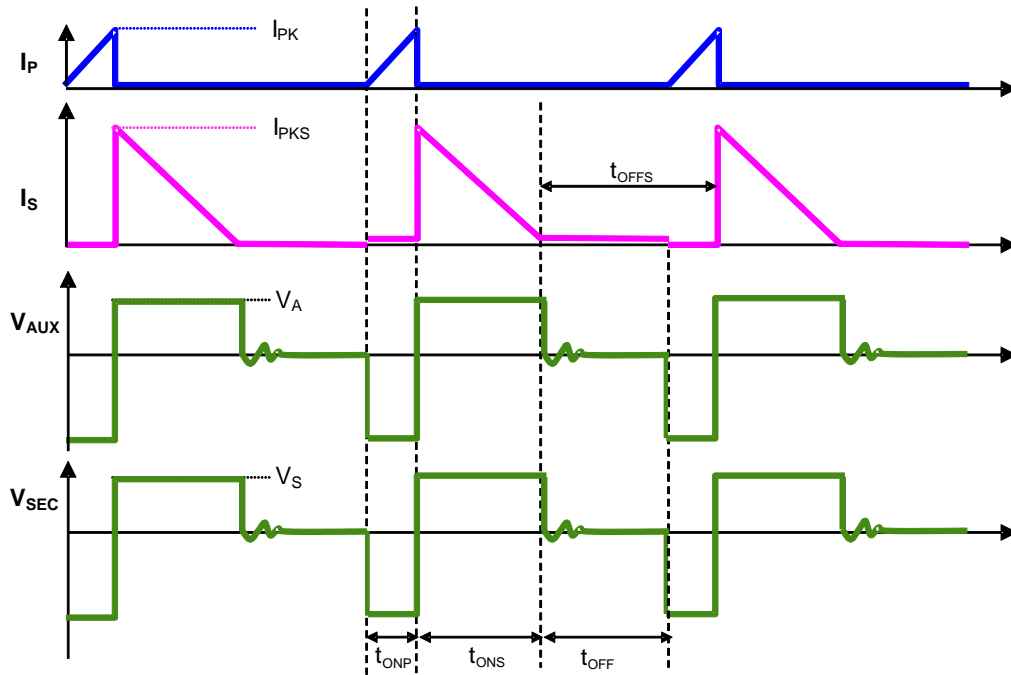

Figure 2. The Operation Waveform of Flyback PSR System
Figure 2 shows the typical waveforms which demonstrate the basic operating principle of AP3776B application. And the parameters are defined as following.
As illustrated in Figure 2, when the current $i_p(t)$ rises up to I_{PK} , the switch Q1 turns off. The constant peak current is given by:
The AP3776B can work in constant-current (CC) mode. Figure 2 shows the secondary current waveforms.